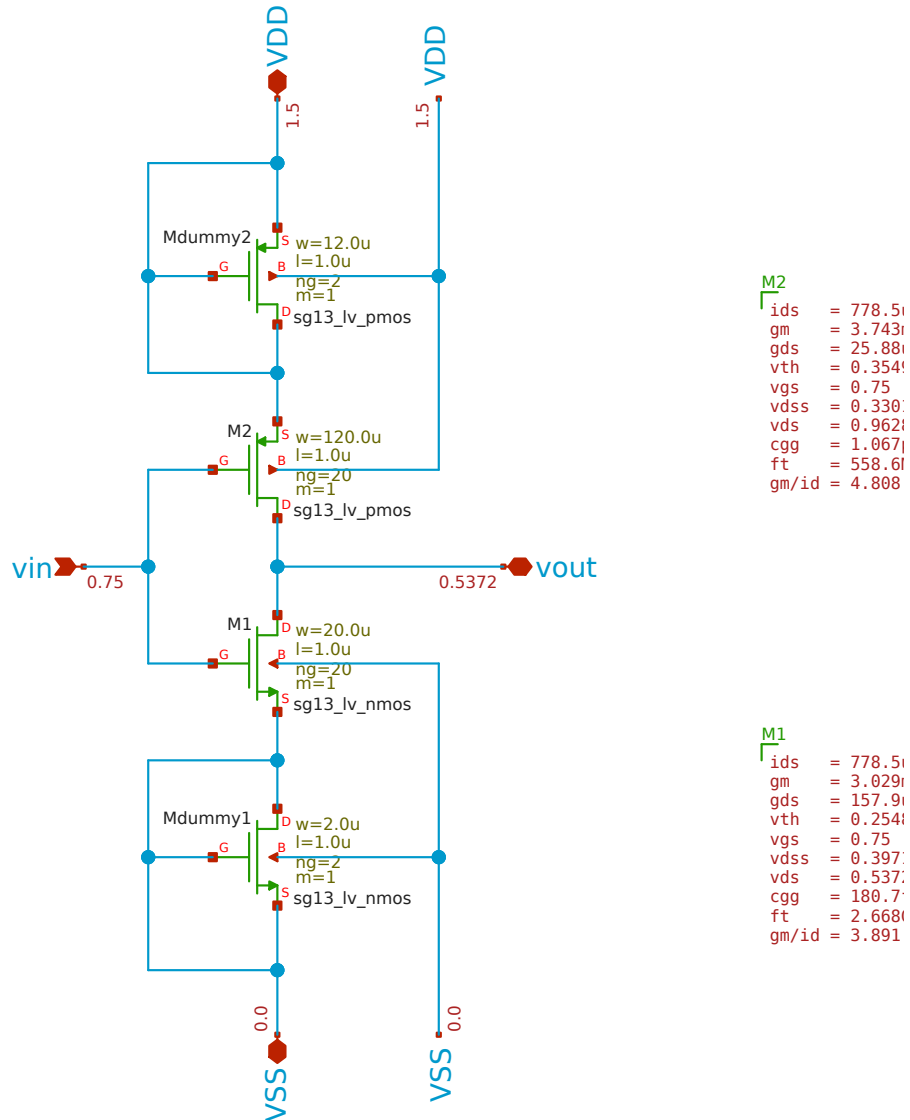

Figure 5: The finished **inverter** schematic in Xschem, with dummy transistors and operating-point annotations.
We now draw the schematic shown in Figure 5 step by step. The reference is inverter.sch.
6. **Annotate (optional).** Place `annotate_fet_params.sym` next to M_1 and M_2 and set `ref=M1` and `ref=M2`. After a simulation, these display the operating-point parameters of the devices directly in the schematic (as visible in Figure 5).